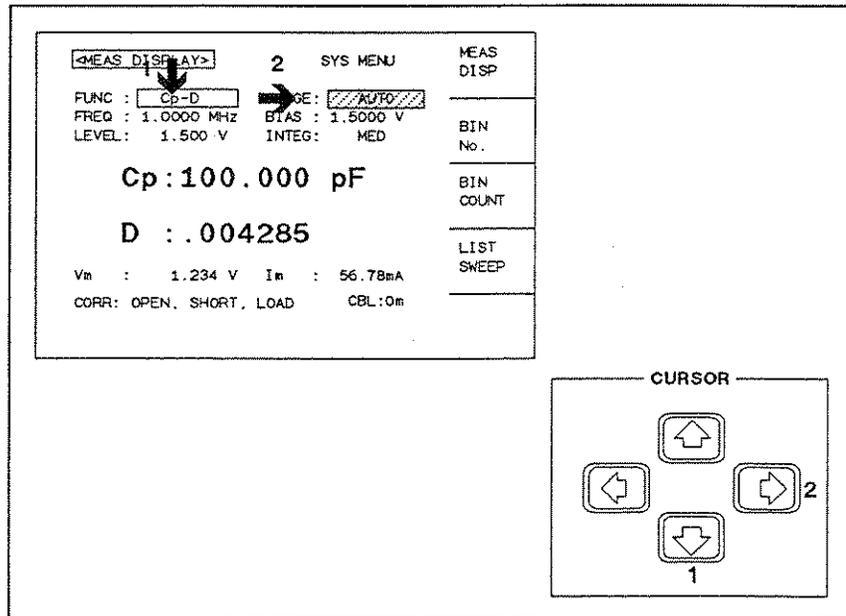

Figure 3-6. CURSOR Keys and Field Operation Example
2. Move the CURSOR to the field to be used using the CURSOR keys. The cursor will be an inverse video marker, and the field is an area at which you can set the CURSOR. (Refer to Figure 3-6.)